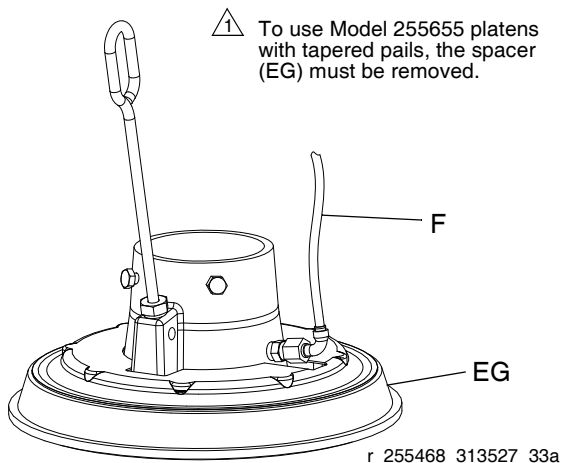

FIG. 10
See FIG. 10. If the platen does not come out of the pail easily when the pump is being raised, the air assist tube (F), or check valve may be plugged. A plugged valve prevents air from reaching the underside of the plate to assist in raising it from the pail.
2. Clear air assist tube (F) in platen. Clean all parts of valve and reassemble.
3. Remove bleed stick (EK) from platen. Push bleed stick through bleed relieve ports to remove material residue.